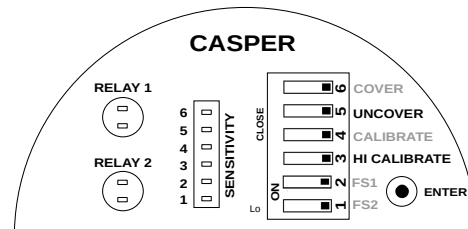

Figure 30: Saving Uncover Delay for Relay 2
- Uncover Delay is entered, but not saved. To save and test the uncover delay, set the UNCOVER switch back to OPEN position as shown in figure 30.